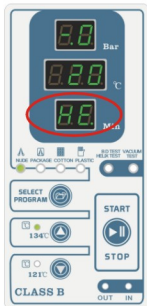

Fig. 8.4-1
(1) **Heating coil preheating stage:** press the button “Select program” select the program the instruments which need be sterilization. then press the button “START/STOP” , the “operation display window” show “HE” , the “pressure display window” show “-.0” , the “temperature display window” show “temperature in chamber” . (Fig.8.4-1)